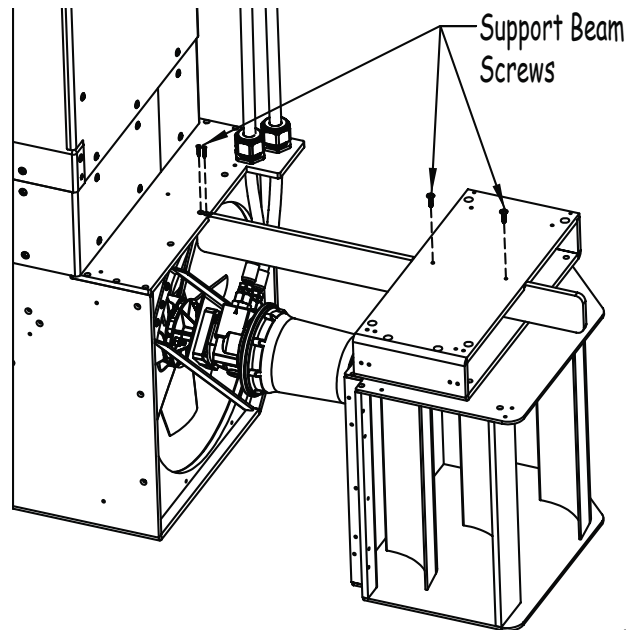

Fig 10
10. The front base support beams are secured to each side of the propulsion housing and wing bench risers with four screws. Remove these screws at this time. Repeat for the other side (Fig 10).